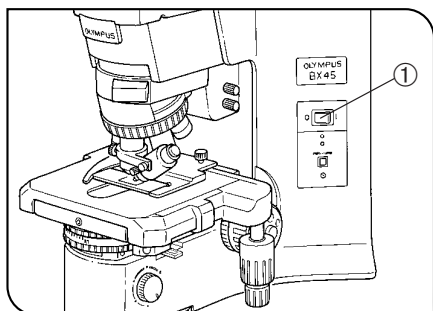

Fig. 1
4. To avoid potential shock hazards and burns when replacing the light bulb, set the main switch ① to "○" (OFF) then disconnect the power cord from the wall outlet in advance. Whenever you replace the bulb during use or right after use, allow the lamp socket ② and bulb to cool before touching. (Figs 1 & 2)